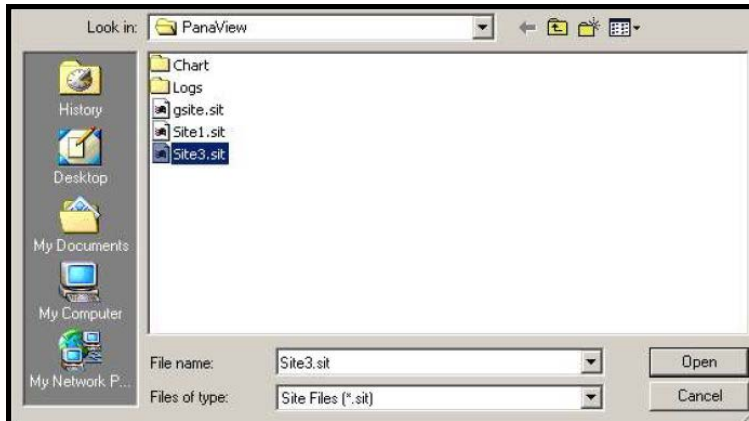

Figure 32: Site File Selection
2. Then click on the *Save Site to Meter* button. A screen opens similar to *Figure 32* below.
3. The *Site File Selection* window (*Figure 32*) opens. Highlight a site with the desired settings, and click [Open]. PanaView saves the site in the meter with the new name and the desired settings.
3. The *Site File Selection* window (shown in *Figure 32*) opens. Enter the desired site name (now with a .prt suffix) and click [Save]. PanaView displays a text version of the site, as shown in *Figure 34* below.